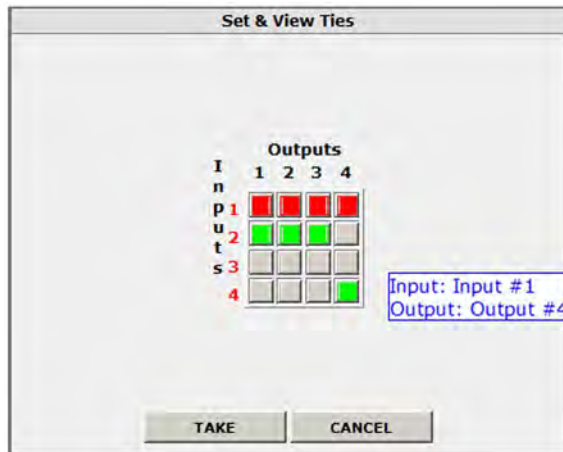

Figure 116. Pop-up Field Providing Formation About a Button Tie
- If you lose track of the input and output associated with a specific button, let the mouse rest over one of the tie buttons for a moment. A field pops up (as shown in **figure 116** on the next page) that identifies the input and output for that button.